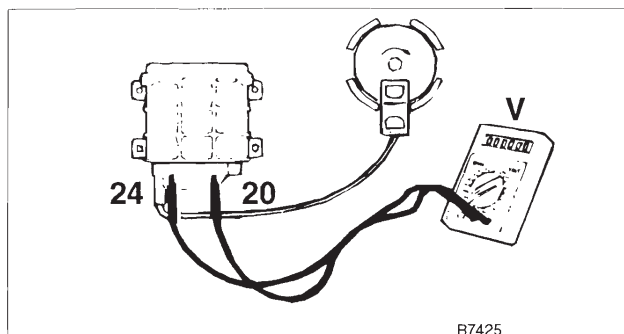

Fig. 17. Voltmeter being used to check Hall sensor operation at EZK control unit.
7. **Check the amplifier switching function.** Connect the voltmeter between coil terminals 15 (+) and 1 (–) on conventional coils or between terminal 3 (+) and 4 (–) on coils with integrated amplifier. Turn the ignition on. The voltage should rise to about 6 volts (DC) and then drop to 0 volts within 1 to 2 seconds. If any faults are found, replace the amplifier. If no faults are found proceed to the next step.
8. **Check the pulse signal from the EZK control unit to the amplifier.** Peel back the rubber boot on the control unit connector. Connect a voltmeter between the terminals 5 (+) and 2 (–) on fender-mounted amplifiers or between terminals 4 (+) and 2 (–) on coil mounted amplifiers. While operating the starter, there should be an oscillating voltage (pulses between 0 and 8 volts (DC), average of 2.8 volts). If no faults are found, the amplifier is faulty and should be replaced. If there is no pulse, proceed to the next step.
9. **Check the Hall sensor signal to the EZK control unit.** Peel back the rubber boot on the EZK control unit connector. Connect a voltmeter between terminal 24 (+) and 20 (–). See Fig. 17. Turn the ignition on and slowly turn the engine over by hand. The voltage should oscillate between 0.4 volts (DC) (or less) and 3.0 volts (or higher). If no faults are found, the EZK control unit is probably faulty and should be replaced. If any faults are found, proceed to the next step.